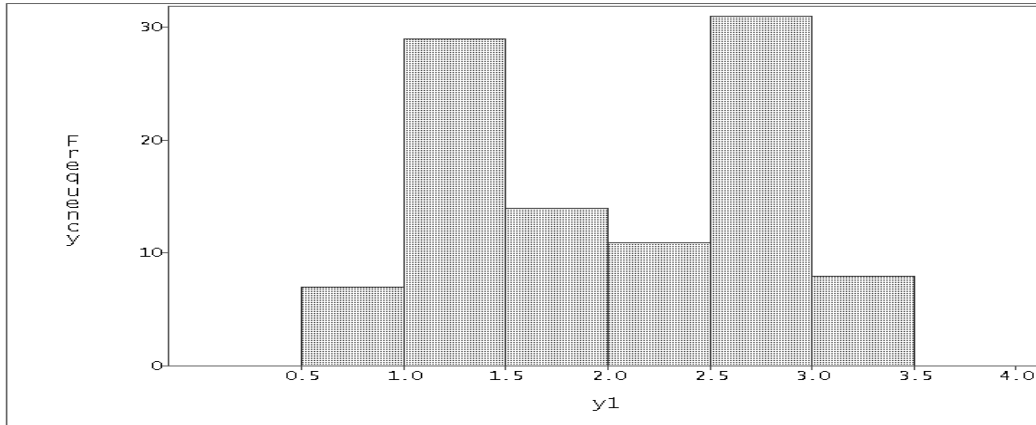
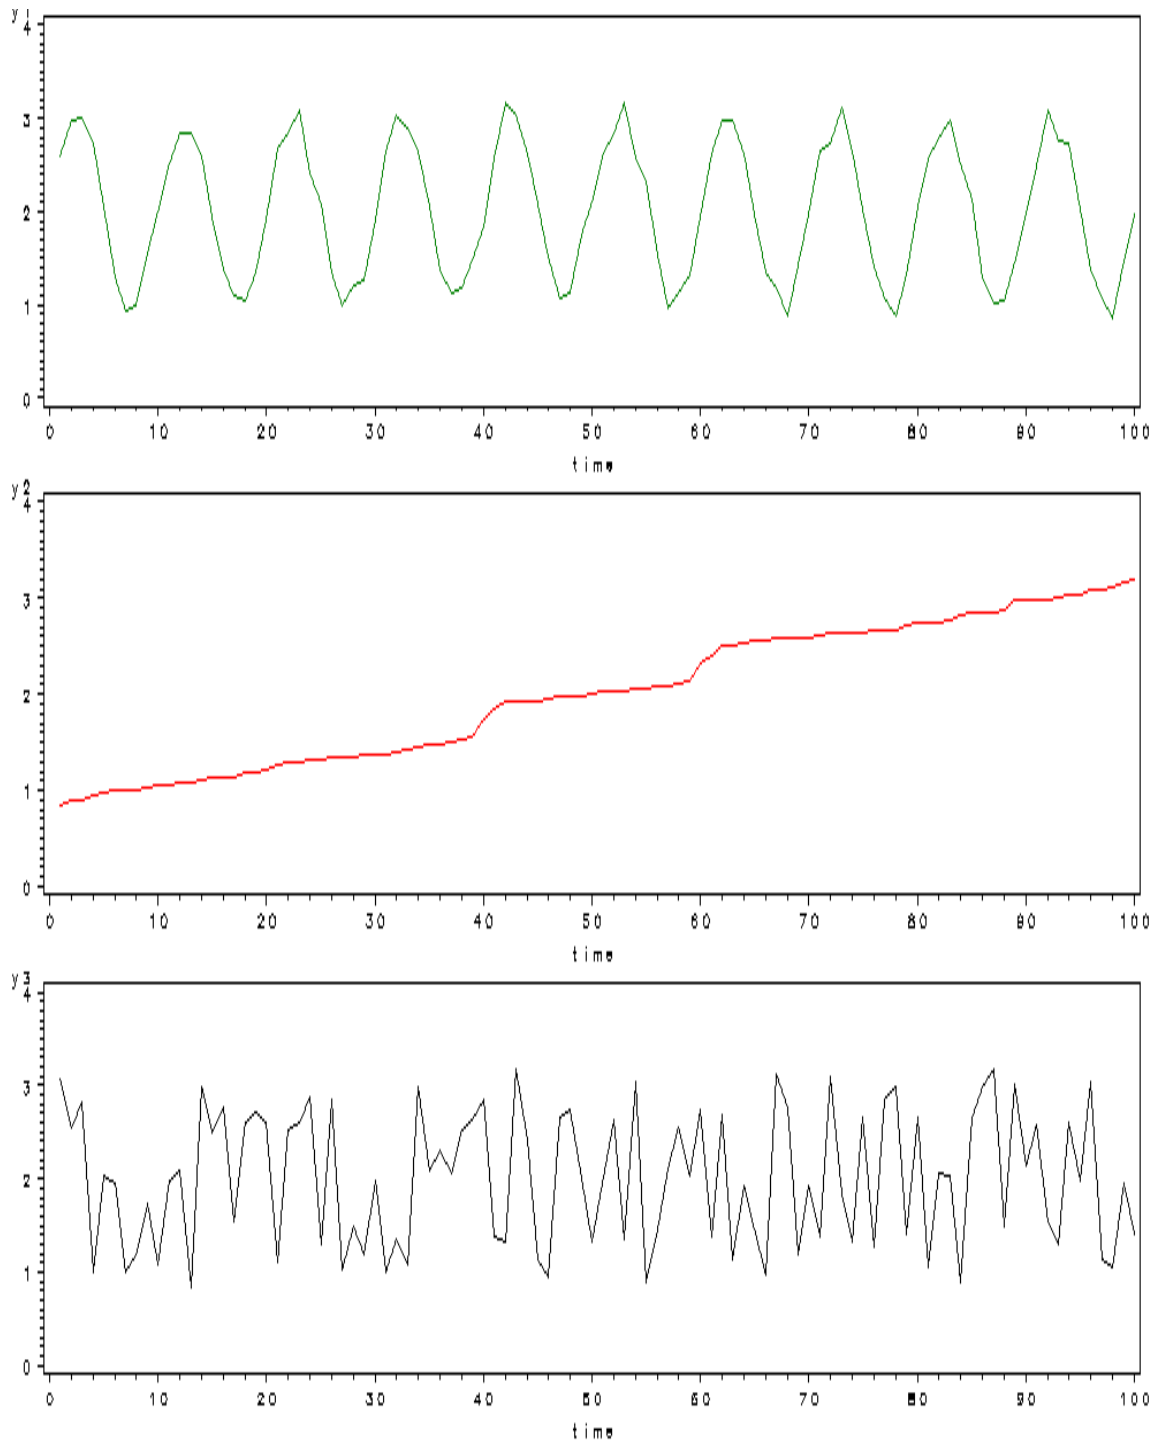

Figure 3: *Histogram of some simulated data.*
Figure 4: *Three possible time series plots for the simulated data.*
- To assess stationarity data must be plotted versus time. Figure 3 shows a histogram of some simulated data:
The histogram in Figure 3 will always look the same regardless of the order in which the data were taken. Figure 4 shows three possible plots of these same data, obtained by rearranging the order in which the data are plotted. These three plots tell very different stories about the process that produced the data. This example shows that to properly analyze data taken over time, it is necessary to plot the data versus time.